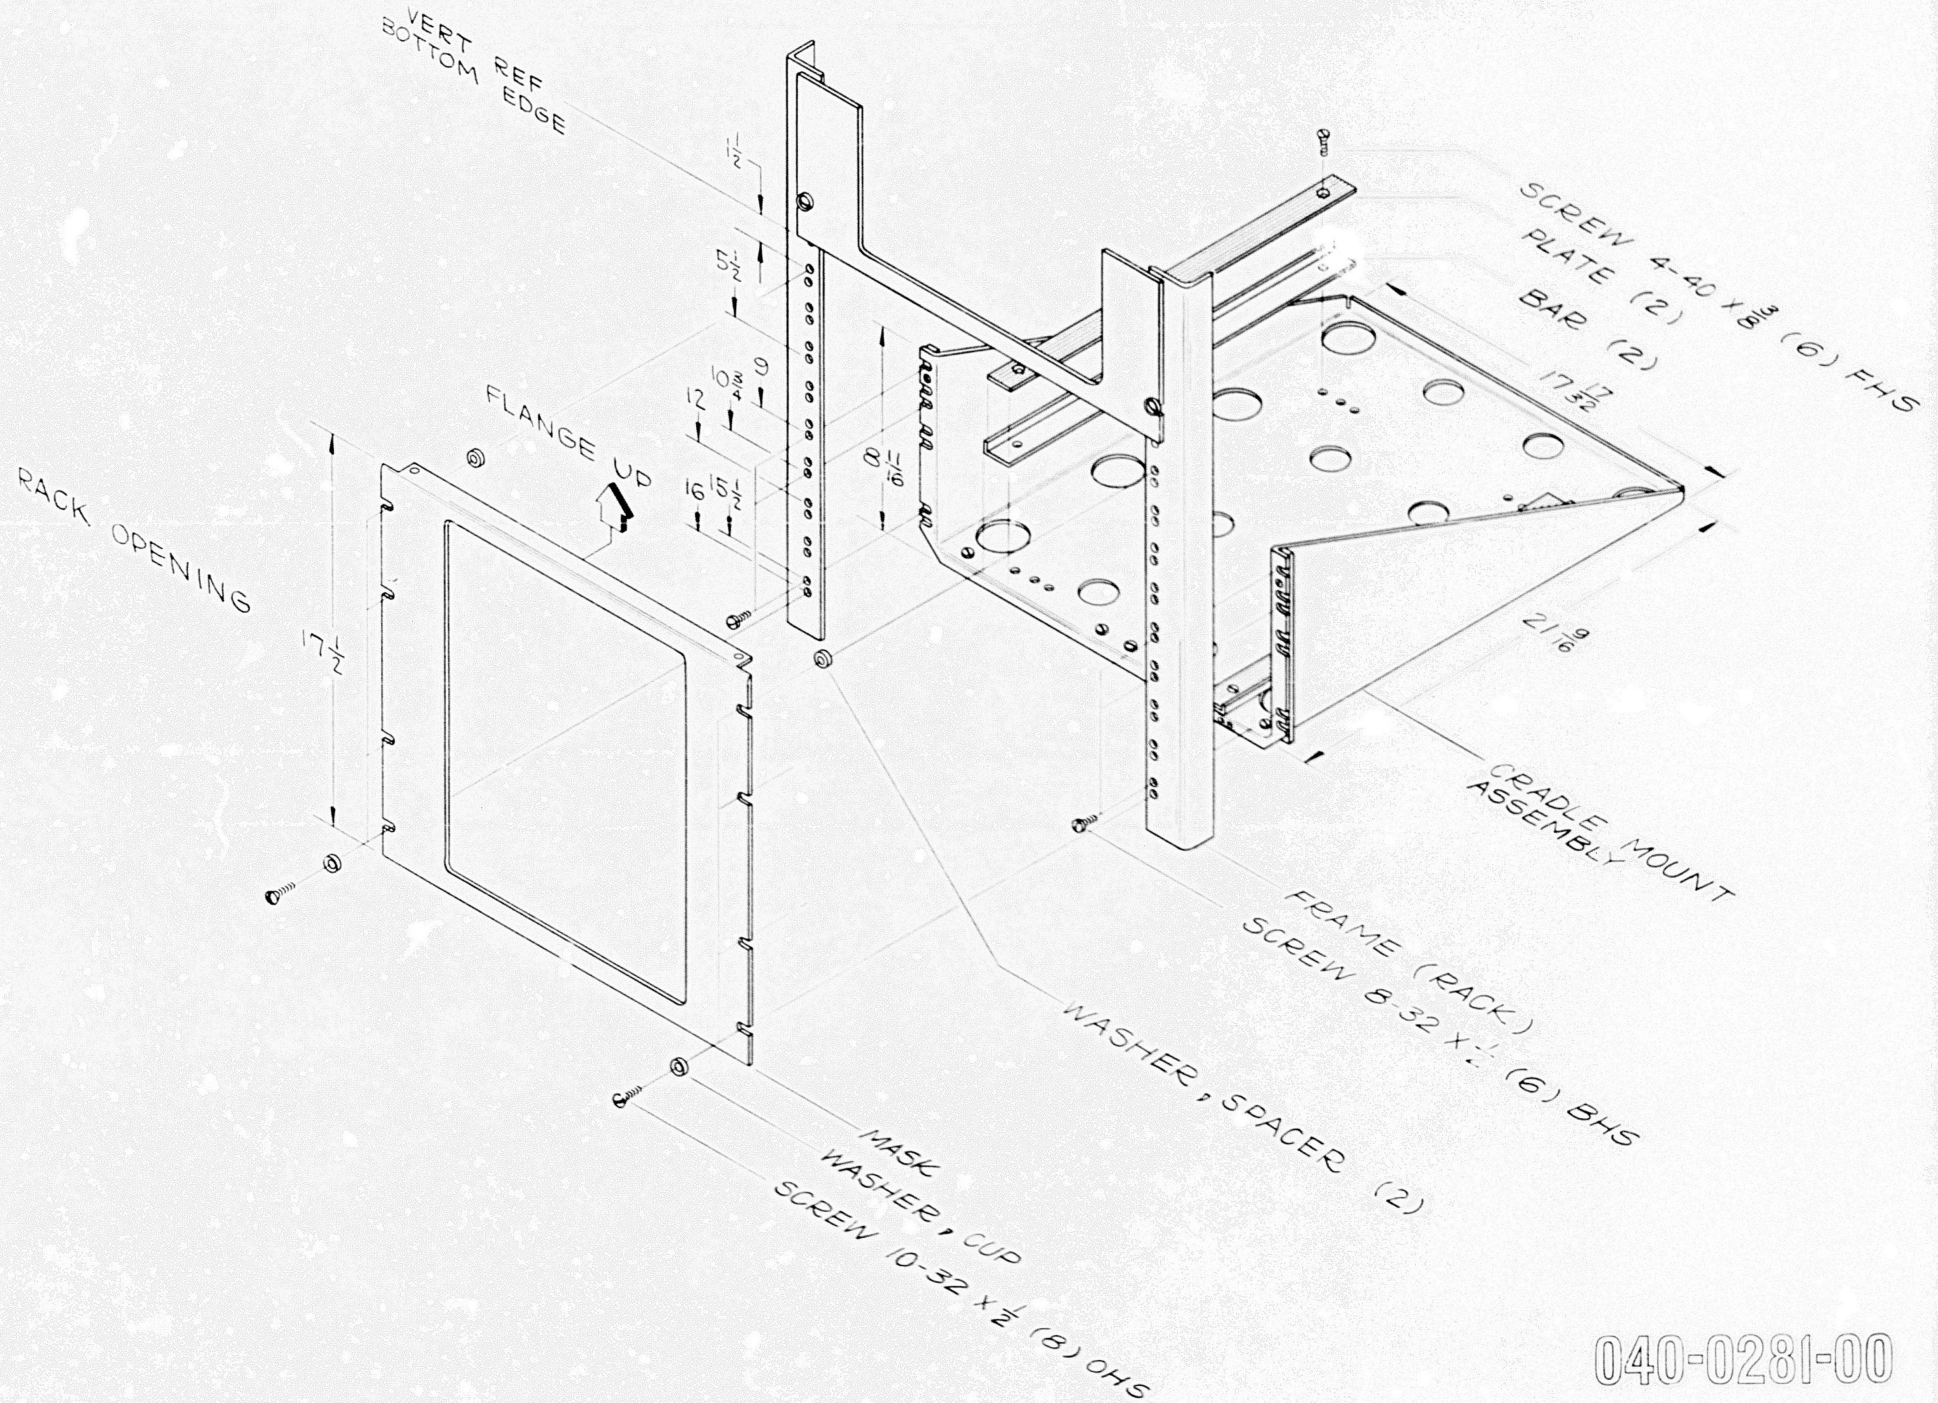

FIG. 6
- () 14. Replace the mask, using the 10-32 x 1/2 OHS screws, the #10 cup washers, and the two spacer washers from the kit (see Fig. 6).